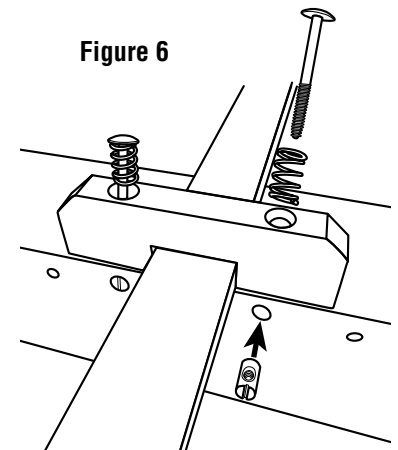

Figure 6
- 6** Insert barrel nuts into bottom of canvas support tray with slots oriented vertically and place back bracket in position as shown in Figure 6. Bracket holes should align with holes in canvas support tray.
- 7** Attach back bracket using 2" Allen bolts and springs, as shown in Figure 6. Slots in barrel nuts must remain vertically oriented. Tighten only until spring can be felt gripping wood pieces together. Do not over-tighten.